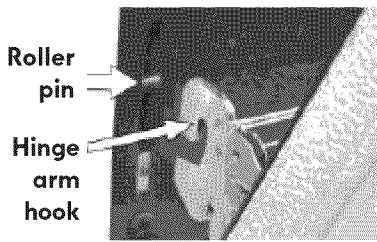

Figure 4D
5. With the oven door in the broil stop position, lift the oven door hinge arms over the roller pins located on each side of the oven frame (See Figure 4D).